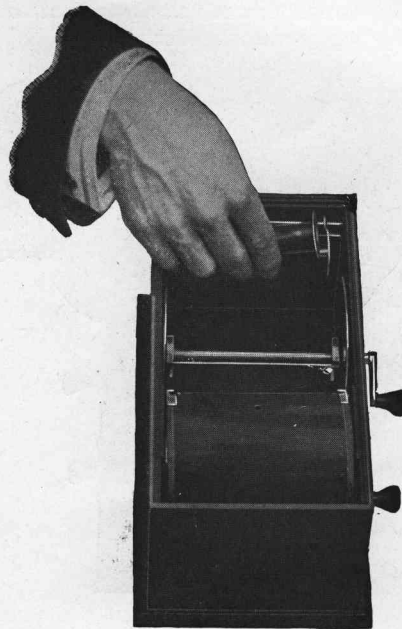

Fig. 3.
5. Insert film cartridge in spool carrier (Fig. 3), and close up the movable arm tight against end of spool.